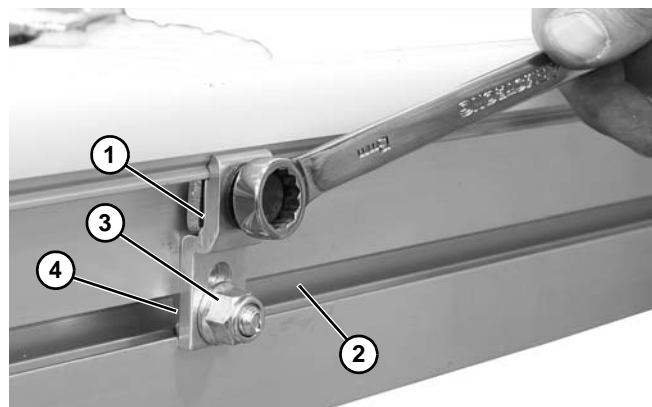

Figure 76
1. Install clip assembly (**Figure 76, item 1**) into side rail channel (**Figure 76, item 2**). The end clips should be no greater than 12" from the end of the conveyor.
*Make sure that the studs (**Figure 76, item 4**) rotate inside the channel and engage with the conveyor.*
2. Fasten clip (**Figure 76, item 1**) to conveyor with nut (**Figure 76, item 3**) on stud.